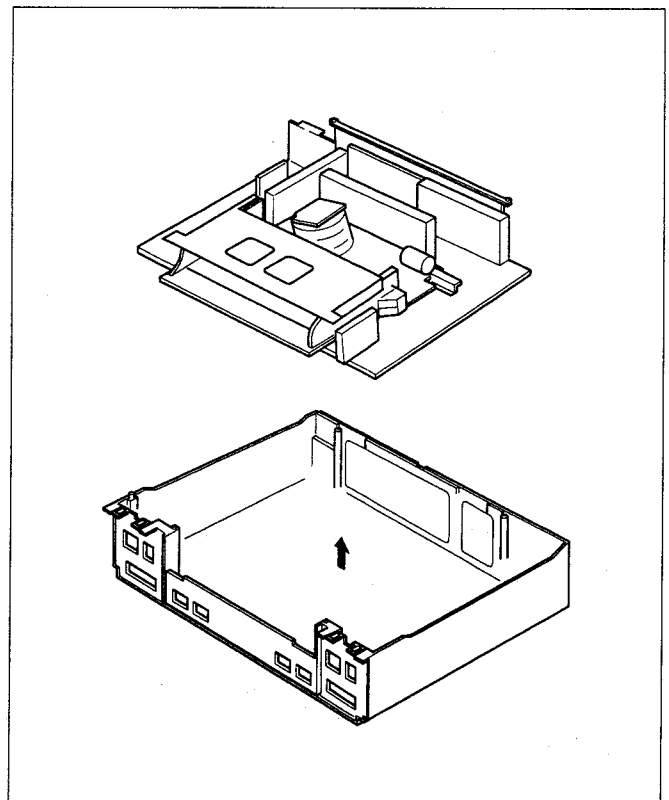
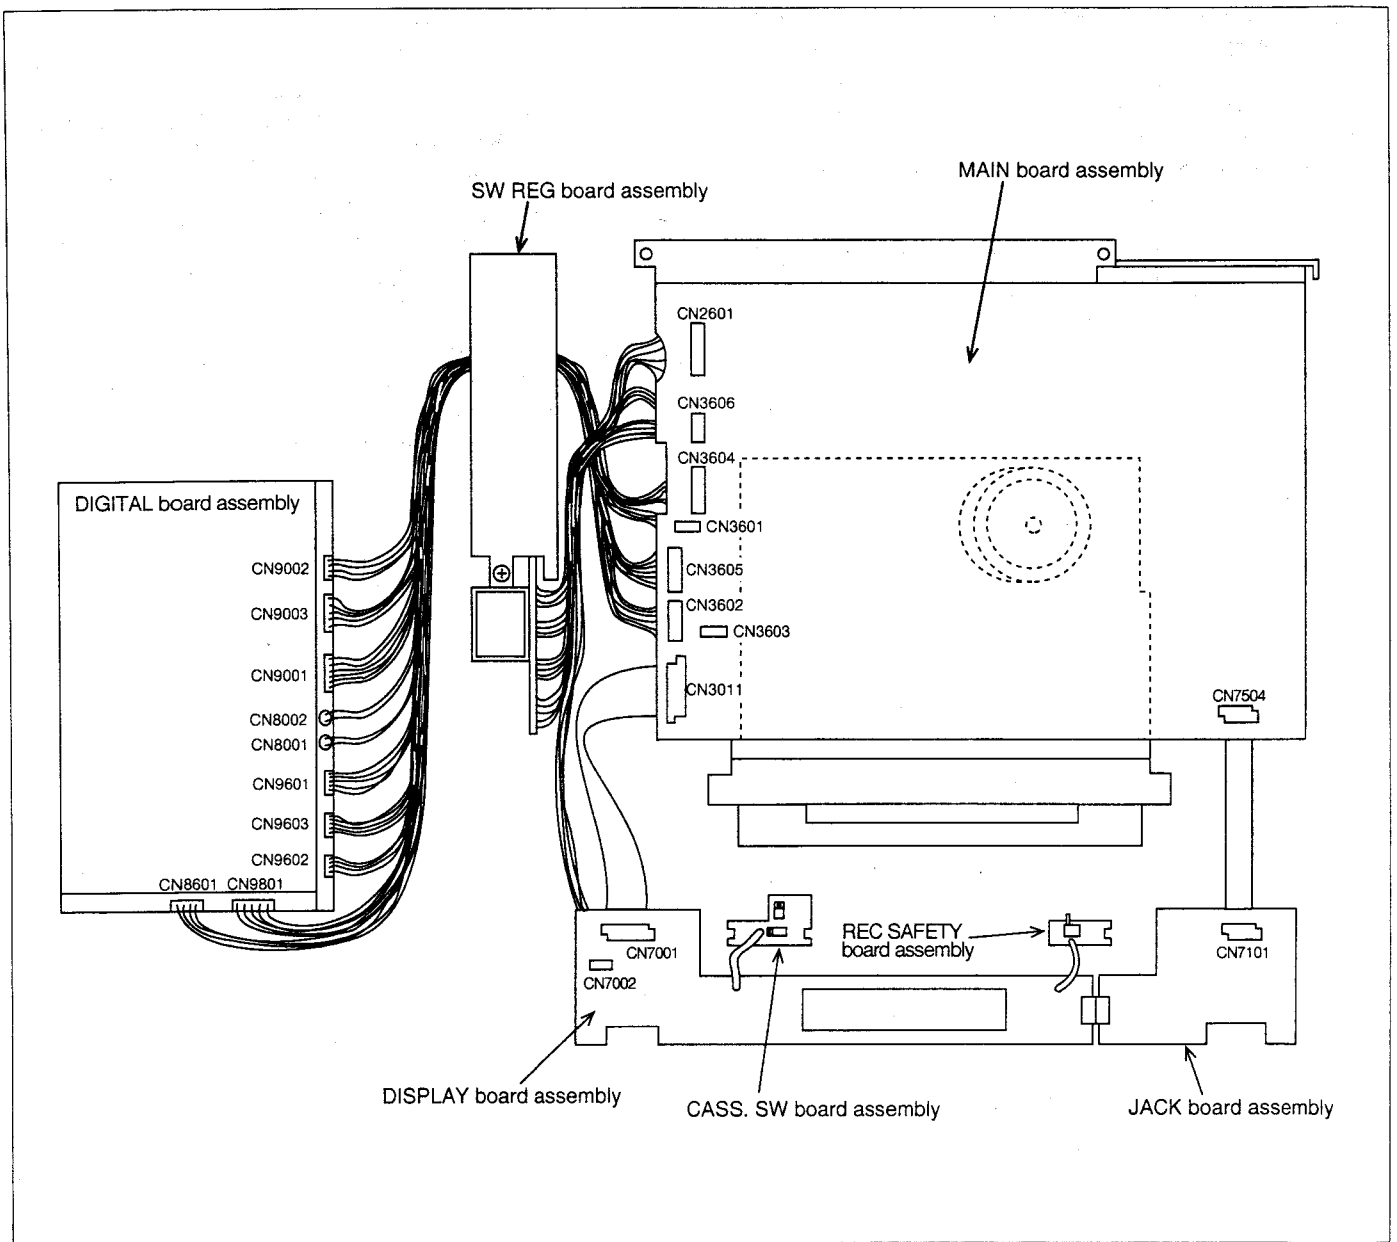

Fig. 1-4-2
Fig. 1-4-3
- (7) Remove the Mechanism assembly (including Cassette housing) and MAIN board assembly out of the chassis as shown in Fig.1-4-2.
- (8) Remove the JACK board assembly and DISPLAY board assembly (including REC SAFETY board assembly and CASS. SW board assembly). (See DISASSEMBLY/ASSEMBLY METHOD.)
- (9) Remove the DIGITAL board assembly. (See DISASSEMBLY/ASSEMBLY METHOD.)
- (10) Connect the wires which were removed at the steps (2) to (5).
- (11) Carry out diagnosis and repair as necessary as shown in Fig.1-4-3.